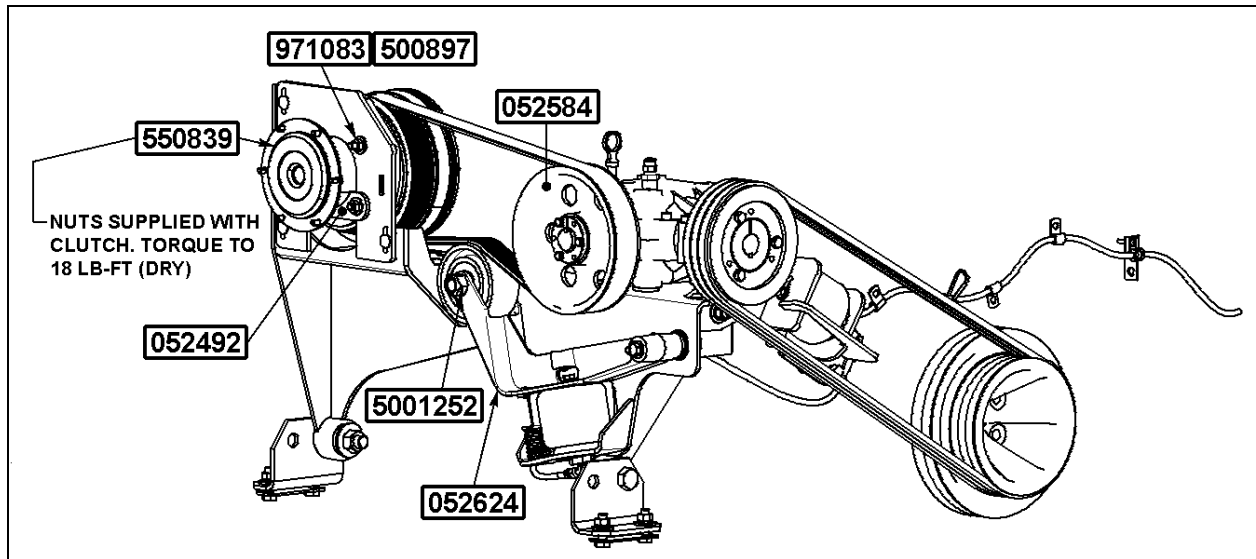

FIGURE 9
21. Install support plate (052596) onto fan clutch (550839) and secure using 2 flat washers (500897) and 2 nuts (971083). Install reinforcement plate (052492) onto support plate and secure fan clutch using the other 2 flat washers (500897) and nuts (971083) (Refer to figure 9).